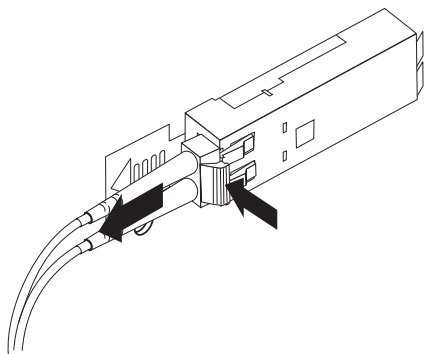

Figure 32. Removing the LC-LC Fibre Channel cable
2. Carefully pull on the connector to remove the cable from the SFP module, as shown in Figure 32 on page 51.